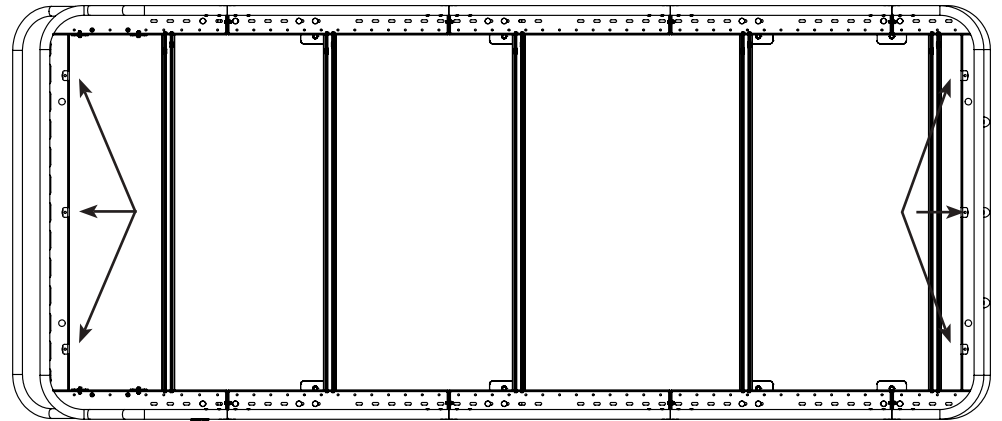

FIG 28
**11.1 Attach Clip Nuts to Baskets:** Install the **Clip Nuts** to the **Front and Rear Basket** locations as shown in FIG 28.